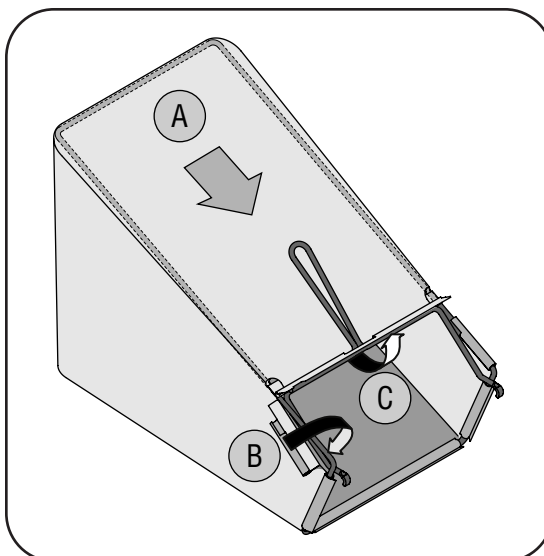

Figure 3-6
- b. Slip plastic channel of grass bag over hooks on the frame. See Figure 3-6. All the plastic channels except center top of bag attach from outside of bag.